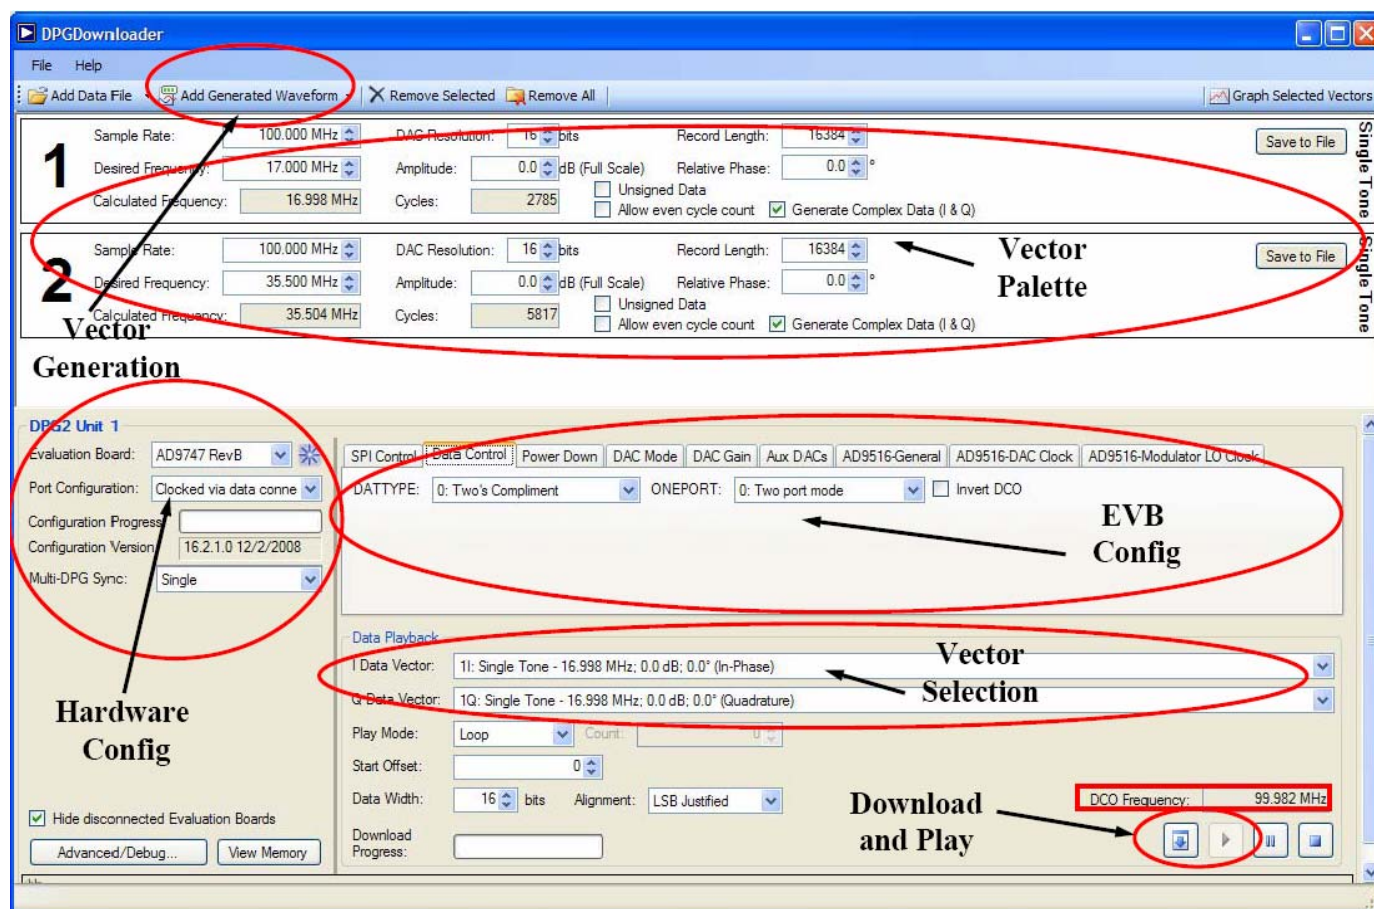

Figure 3 – DPGDownloader Window
- Generate a sinewave by pulling down the “Add Generated Waveform” menu and choosing “Single Tone”. Fill in the form as shown in Figure 3 (Sample Rate = 100MHz, Desired Frequency = 17.0MHz, etc.). Select the I and Q data vectors in the data selection panel.